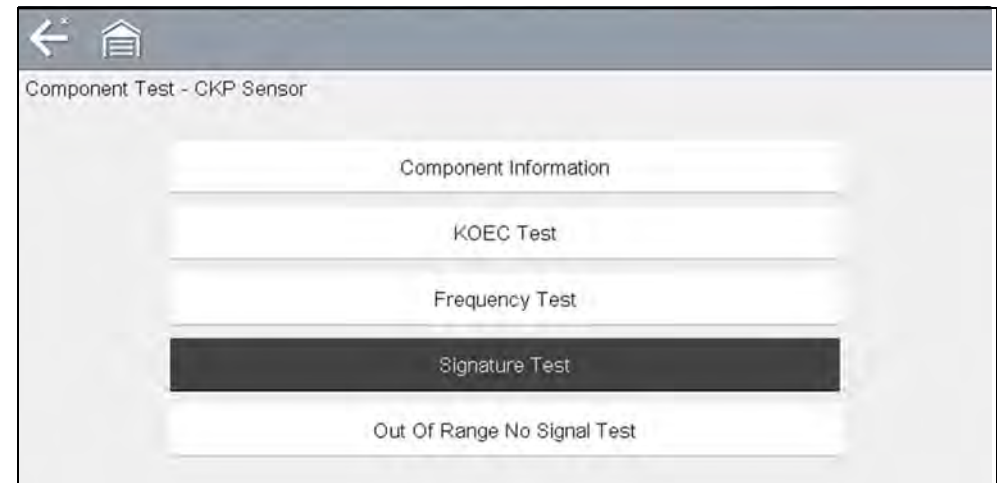

Figure 9-7 Component Test Menu
2. Select a **Test** from the Component Test menu (Figure 9-7).